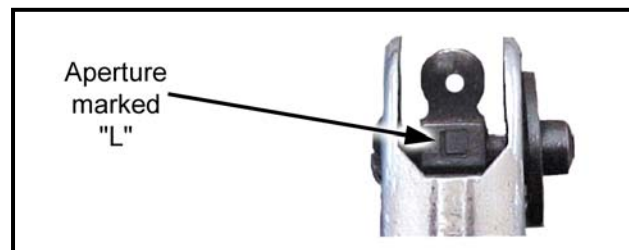

Figure 2-3. M16A1 rifle battlesight zero.
(2) **Battlesight Zeroing the M16A1.** If necessary, the soldier should use the aperture marked “L” to battlesight zero the weapon (Figure 2-3). Table 2-3 and Table 2-4 (page 2-4) show how much one click of elevation or windage will move the strike of the round from a 25-meter zero all the way out to 500 meters.